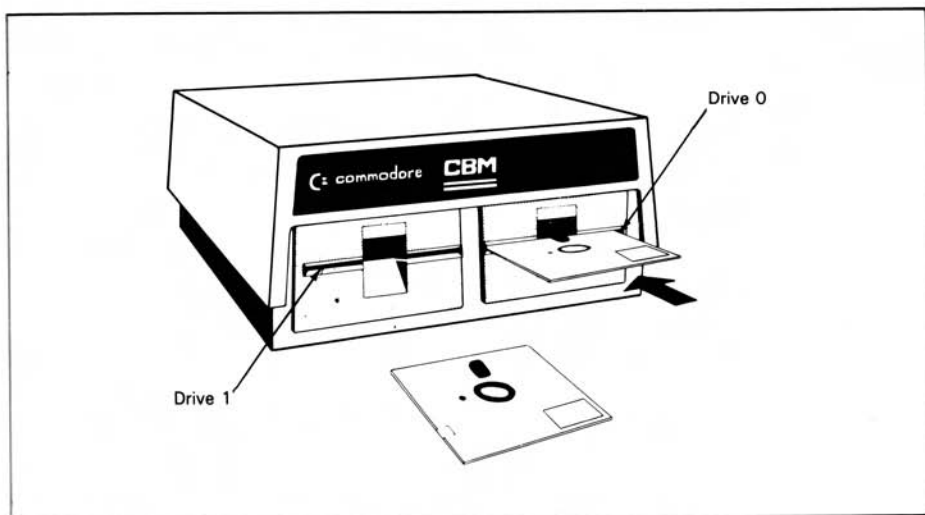

Figure 1-25. Inserting the Diskettes (Model 8050)
2. Carefully guide the diskette into one of the slots (Figure 1-25) until you hear a loud click. Do not push the diskette further in. If it doesn't slide in smoothly, immediately withdraw it and try again. *Do not force the diskette* or you may damage both the diskette and the disk drive.